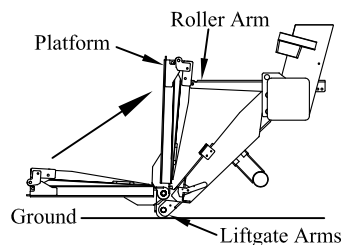

Figure 8: Step 15.
- Step 14. With the liftgate arms touching the ground, stand to the side of the platform, and fold the platform closed until it rests on the roller arm (Figure 8).